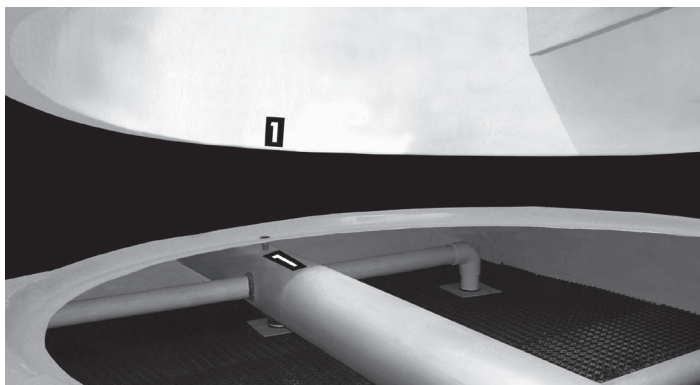

Figure A-65: Fan Duct alignment for a Modular Tower
- E. Identify each fan duct, they are labeled with a number on the inside of the lower edge. For a correct installation, this number must match the number on the distribution manifold of the corresponding body section. Now place fan duct 1 on the correspondent receiving flange on top of the Tower; make sure the bolt holes and the marks inside the fan duct and the receiving flange are aligned (see Figure A-65). Secure it with the stainless steel nut and bolt sets supplied by REYMSA.